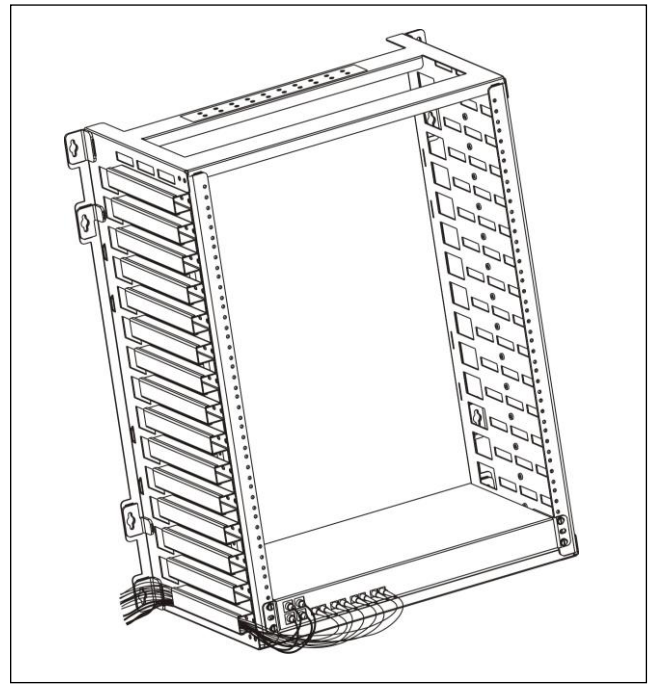

Figure 9. Cable guide application
- ② Groom cabling from the front of the chassis to the wall through the cable guide on the side of the WR-15U, as shown in Figure 9, and replace the sliding cover.